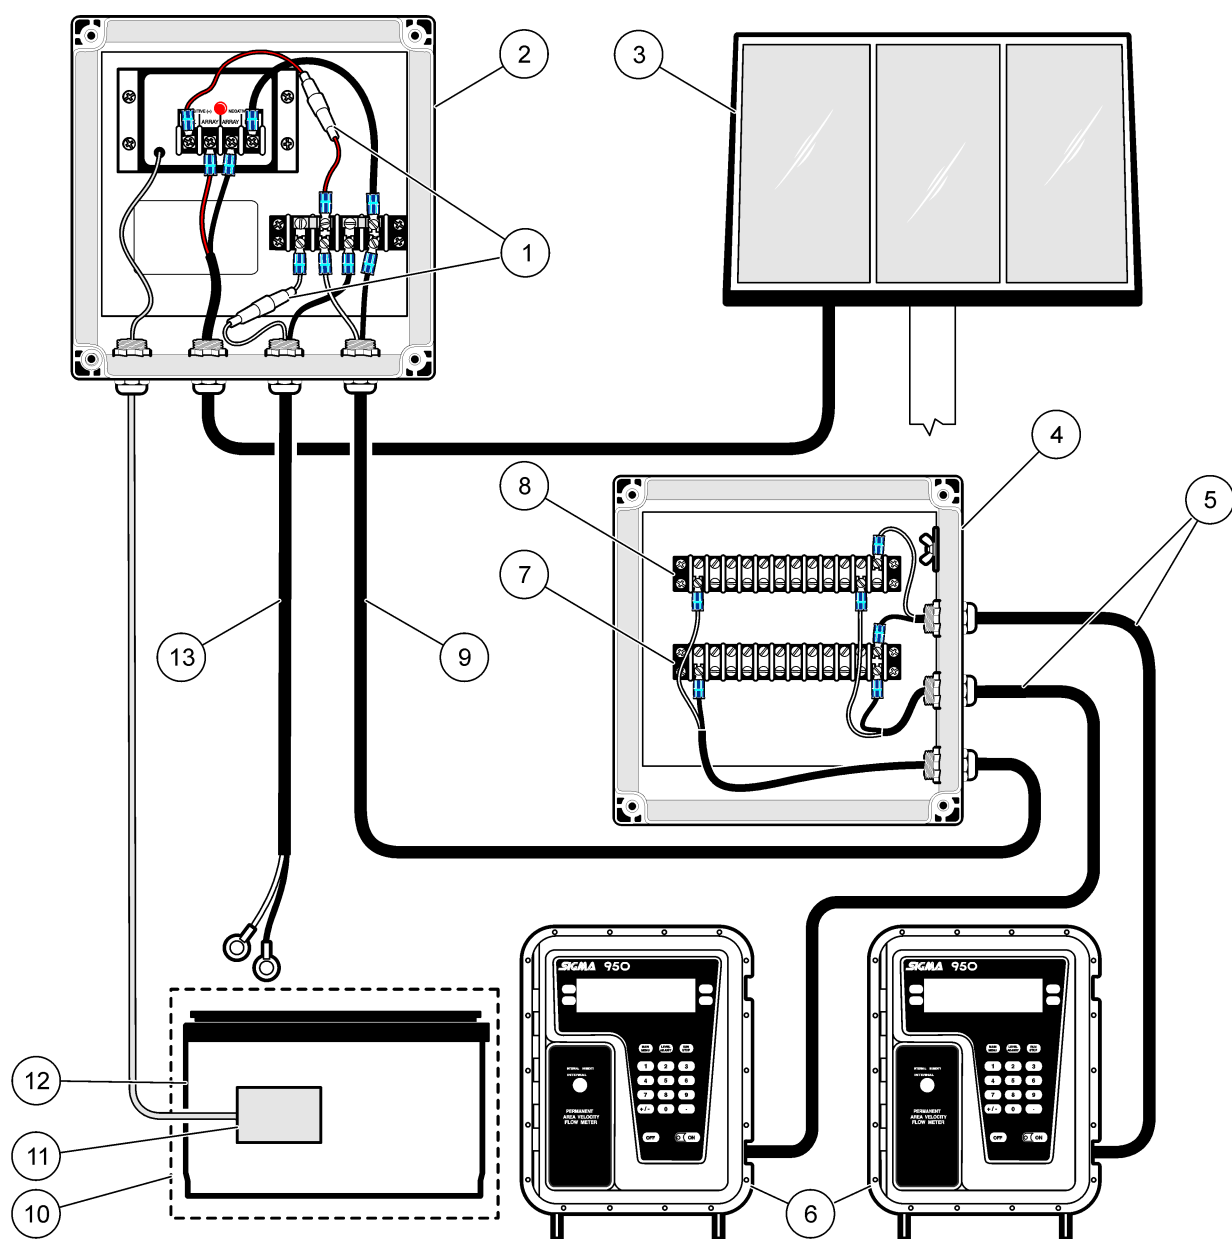

Figure 11 Multiple flow meters
4. Remove the nut on the battery cable strain relief and feed the battery cable wires through the third hole on the regulator. Thread the nut over the wires and tighten to secure. Connect the spade terminals to the screw terminals. Refer to Figure 11 on page 18.